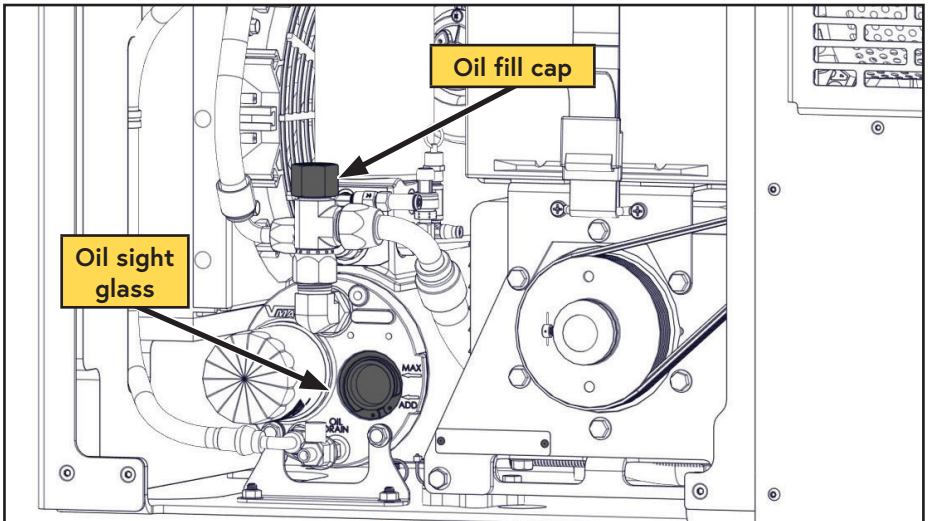

Figure 33 — Fill oil
- Remove the oil fill cap (Figure 33).